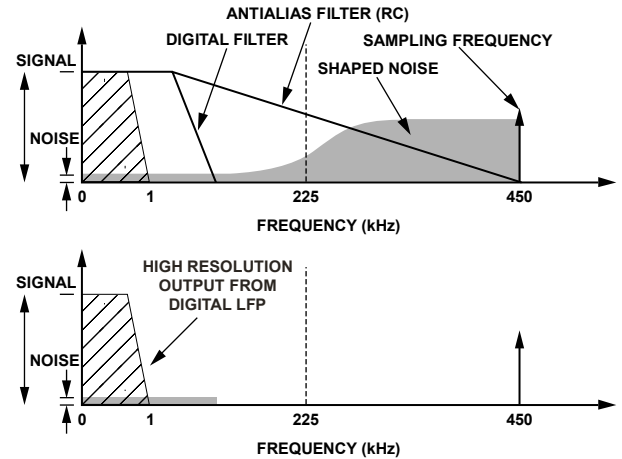
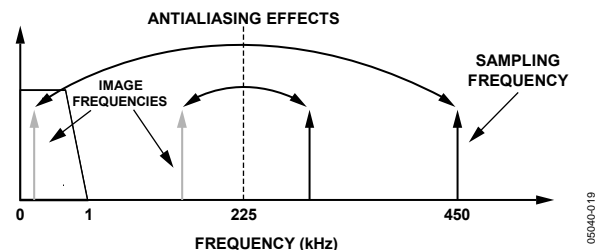

Figure 20. Noise Reduction due to Oversampling and Noise Shaping in the Analog Modulator
Figure 21. ADC and Signal Processing in Current Channel or Voltage Channel
The Σ - Δ converter uses two techniques to achieve high resolution from what is essentially a 1-bit conversion technique. The first is oversampling, which means that the signal is sampled at a rate (frequency) that is many times higher than the bandwidth of interest. For example, the sampling rate in the ADE7761A is CLKIN (450 kHz) and the band of interest is 40 Hz to 1 kHz. Oversampling has the effect of spreading the quantization noise (noise due to sampling) over a wider bandwidth. With the noise spread more thinly over a wider bandwidth, the quantization noise in the band of interest is lowered (see Figure 20).
However, oversampling alone is not an efficient enough method to improve the signal-to-noise ratio (SNR) in the band of interest. For example, an oversampling ratio of 4 is required just to increase the SNR by only 6 dB (1 bit). To keep the oversampling ratio at a reasonable level, it is possible to shape the quantization noise so that the majority of the noise lies at the higher frequencies. This is what happens in the Σ - Δ modulator; the noise is shaped by the integrator, which has a high-pass type response for the quantization noise. The result is that most of the noise is at the higher frequencies, where it can be removed by the digital low-pass filter. This noise shaping is also shown in Figure 20.
Figure 20 also shows an analog low-pass filter (RC) on input to the modulator. This filter is present to prevent aliasing. Aliasing is an artifact of all sampled systems, which means that frequency components in the input signal to the ADC that are higher than half the sampling rate of the ADC appear in the sampled signal frequency below half the sampling rate. Figure 21 illustrates the effect.
In Figure 21, frequency components (arrows shown in black) above half the sampling frequency (also known as the Nyquist frequency), that is, 225 kHz, are imaged or folded back down below 225 kHz (arrows shown in gray). This happens with all ADCs no matter what the architecture. In the example shown, only frequencies near the sampling frequency (450 kHz) move into the band of interest for metering (40 Hz to 1 kHz). This fact allows the use of a very simple low-pass filter to attenuate these frequencies (near 250 kHz) and thereby prevent distortion in the band of interest. A simple RC filter (single pole) with a corner frequency of 10 kHz produces an attenuation of approximately 33 dB at 450 kHz (see Figure 21). This is sufficient to eliminate the effects of aliasing.